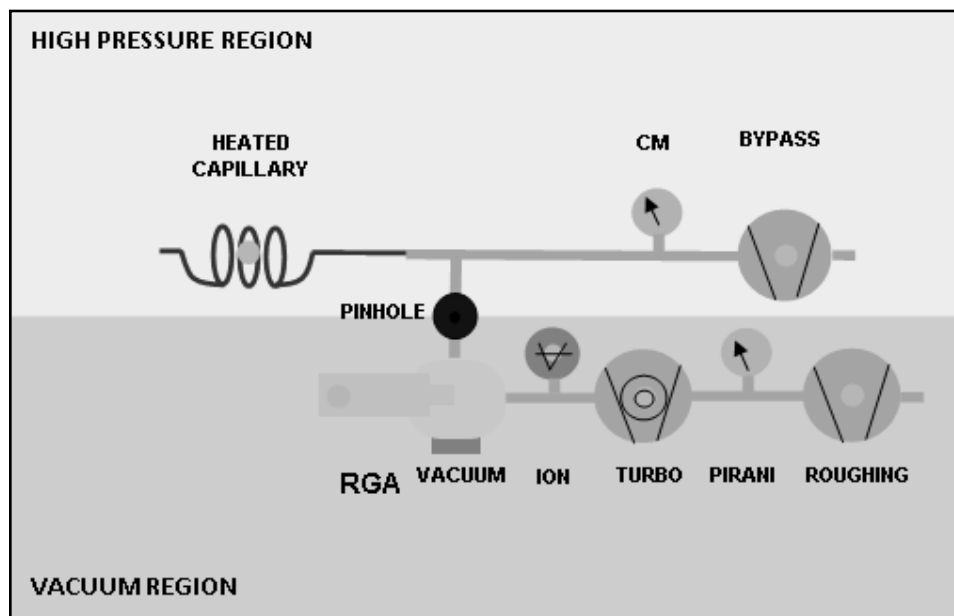

Figure 1-1. UGAHT Schematic
The UGAHT systems can be considered as two main subsystems: gas handling and the analyzer. The analyzer is the quadrupole mass spectrometer, which can only operate in high vacuum. The class of quadrupole mass spectrometer employed belongs to a class referred to as residual gas analyzers (RGA). These spectrometers specialize in large dynamic range measurements of light gases. The gas handling system consists of a capillary, a pinhole, and pumps that deliver the sample gas to the analyzer. The UGAHT employs two separate diaphragm pumps (DP) for each stage. In this way, the high pressure sample line is completely separated from the analysis system. (see figure 1-1)